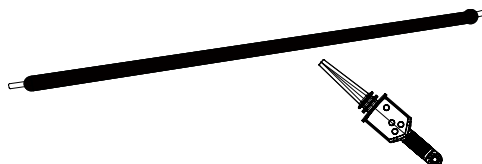

Fig. 1 Voltage detection in a line
4. Place the probe tip of the TIC 300 PRO near, but not touching, a low (<1000 V) voltage line (Fig. 1).